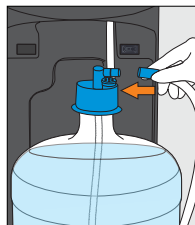

Figure 42
20. Remove protective cap from the SmartFlo™ SF-1 water line and install onto the replacement bottle adaptor assembly (Figure 42)